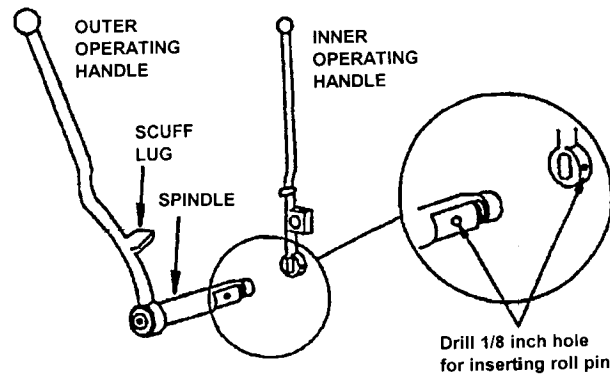

Figure 600-2.55. Quick-Acting Operating Handle Temporary Repair
- b. Examine the spindle bearing surfaces of each handle. If the bearing surfaces have deep scratches or grooves, the handle must be replaced. If the spindle threads are damaged, repair them with a 7/8-9UNC die. The fit between the spindle and the hole in the inner operating handle is sometimes so loose that the hole becomes enlarged and excessive movement develops. The result of this problem is that the interior and exterior handles become misaligned by as much as 30 degrees, preventing rapid operation of the door. To correct this problem, accomplish a temporary repair in accordance with figure 600-2.55. This consists of installing a grooved 1/8-inch roll pin in a hole drilled through the operating handle and the handle shaft. The handle and shaft must be drilled as an assembly to ensure correct alignment of the holes. The pin will hold the handle and shaft rigidly together, but can be removed if necessary for maintenance purposes.